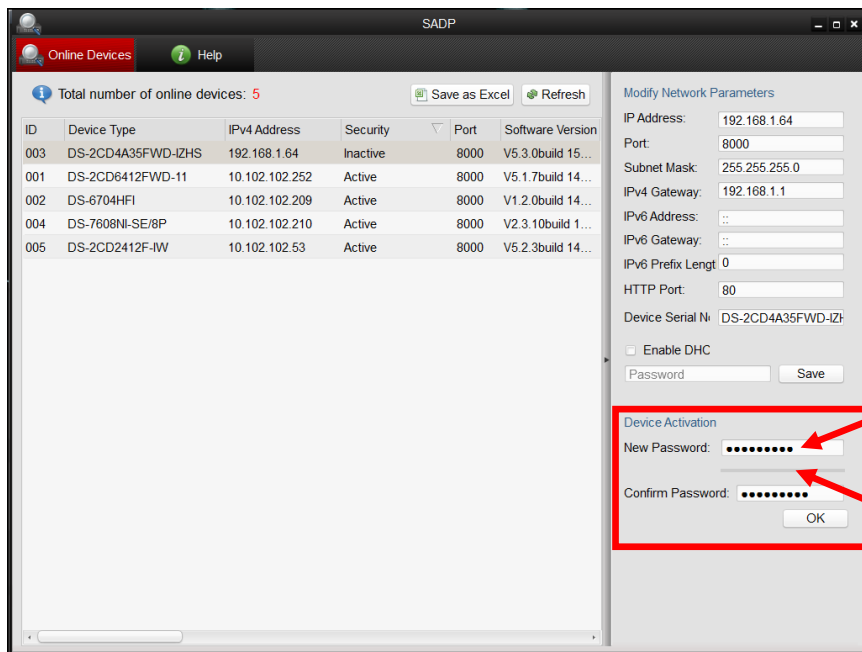

Figure 23 Password Field with "Risky" Unacceptable Password
2. If the DVR/NVR is "Inactive," highlight the DVR/NVR and enter a new password into the "New Password" field on the bottom right of the screen (**Figure 23**). See "Password Strength Levels" table on page 37 for guidelines.
- The Activation Window will appear instead of the login page (**Figure 23**).